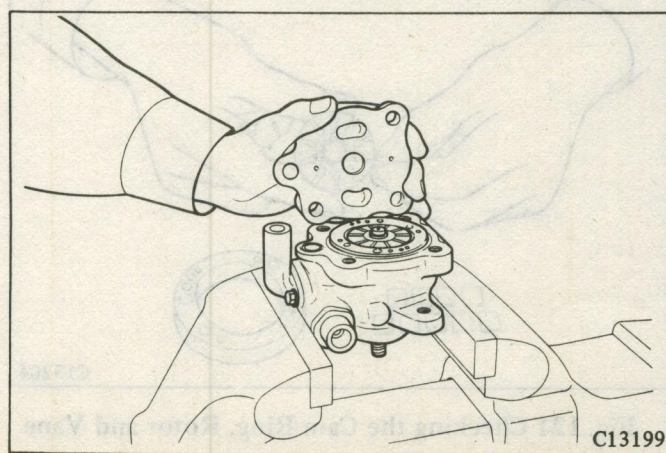

Fig. 116 Removing the Oil Pump Cover
(1) Remove the oil reservoir.
(2) Hold the oil pump in a vise, loosen the pump cover bolts, and remove the cover. Tap the cover with a plastic hammer if it is difficult to remove. (Fig. 116)